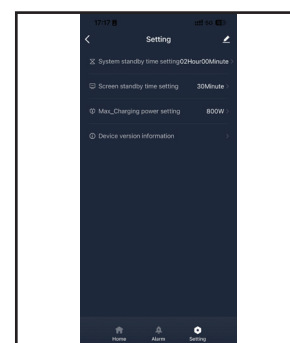

Figure 8
3. The "Setting" page can set the device's standby time, screen standby time, maximum charging power, and display the device's version information. (See Figure 8)